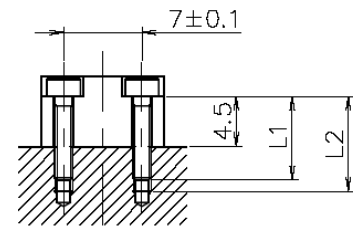

Fig.2
- (1) To install, use M1.6 screw (recommended tensile strength ranking [12.9], longer than 12 mm). Drill holes in the measuring object. The holes' effective screw depth should be longer than the mounting screws,  $L1 \leq L2$ . The distance between the holes should be  $7 \pm 0.1$  mm. (Fig.2)
- (2) Clean the mounting area.
- (3) Also clean the mounting surface of the transducer.
- (4) Apply the silicone grease lightly between the transducer and measuring object. The tightening torque is 0.1 to 0.12 N · m (Recommend tightening torque: 0.12 N · m).